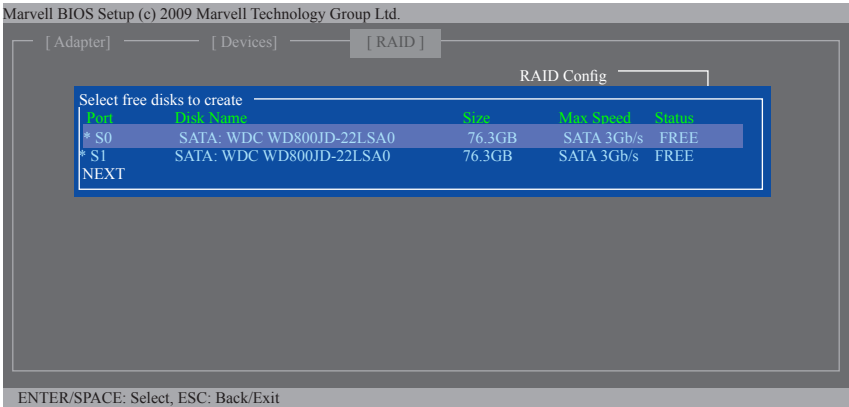

Figure 7
Step 2: The next screen displays the two hard drives you installed. Press <Enter> or <Space> on the two hard drives respectively to add them into the RAID array. Selected hard drives are marked with an asterisk (Figure 7). Then press <Enter> on **NEXT**.